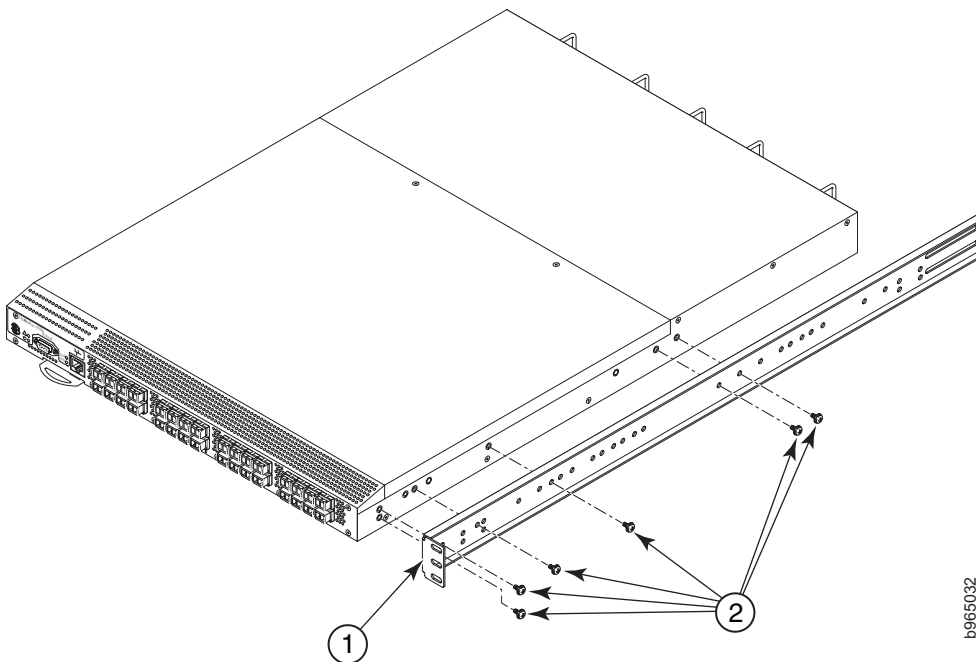

Figure 4. Attaching the front brackets
1. Position the right front bracket (**1**) with the flat side against the right side of the switch, as shown in Figure 4